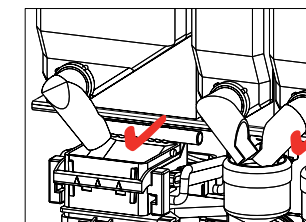

Fig. 18
6. Turn the dispensing element(s) back to their correct position (fig. 18)